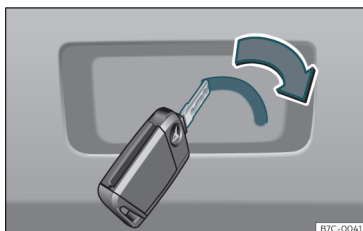

Fig. 87 Detail of the luggage compartment: emergency unlocking
- Insert the key blade into the slot and move the key in the direction of the arrow until the lock unlocks >>> **Fig. 87**.